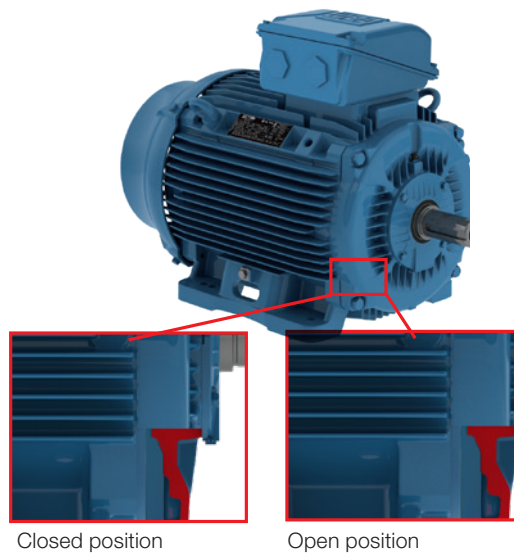

Figure 29 - Detail of the rubber drain plug mounted in closed and open position
- If the motor is installed without running immediately, proceed as described in item 5.3.
5. Cooling: the cooling fins, air inlet and outlet openings must be clean and unobstructed. The distance between the air inlet openings and the wall should not be shorter than ¼ (one quarter) of the diameter of the air inlet. Ensure sufficient space to perform the cleaning services. See item 7.
6. Coupling: remove the shaft locking device (where fitted) and the corrosion protection grease from the shaft end, including the grounding brush area, and flange immediately before installing the motor. See item 6.4.
- Motors supplied with rubber drain, threaded drain or any other open/close drain plugs must be opened periodically to allow the exit of condensed water. For environments with high water condensation levels and motor with degree of protection IP55, the drain plugs can be mounted in open position (see Figure 29).
- For motors with degree of protection IP56, IP65 or IP66, the drain plugs must remain at closed position (see Figure 29), being opened only during the motor maintenance procedures.
- The drain system of motors with Oil Mist lubrication system must be connected to a specific collection system (see Figure 29).